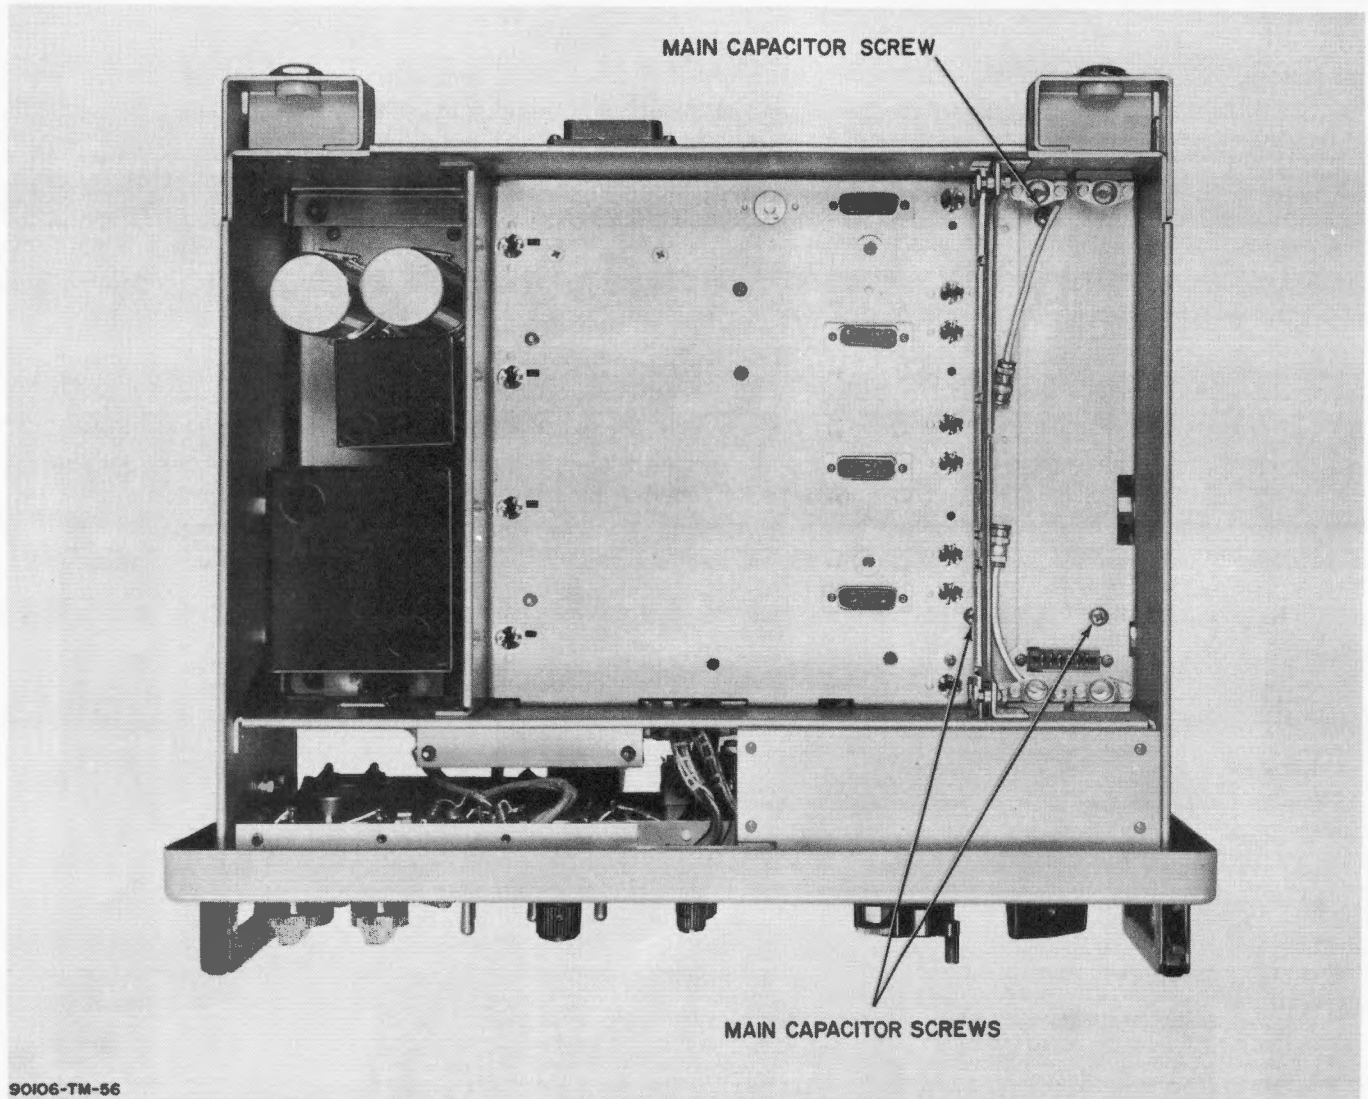

Figure 6-10. Removal of Main Tuning Capacitor
(54) Lubricate gears, sparingly, using MIL-G-3278.
k. REMOVAL OF MAIN TUNING CAPACITOR (see figure 6-10). - To remove the main tuning capacitor proceed as follows:
1. REPLACEMENT AND ALIGNMENT OF MAIN TUNING CAPACITOR (see figure 6-10). - To replace and align the main tuning capacitor, proceed as follows: